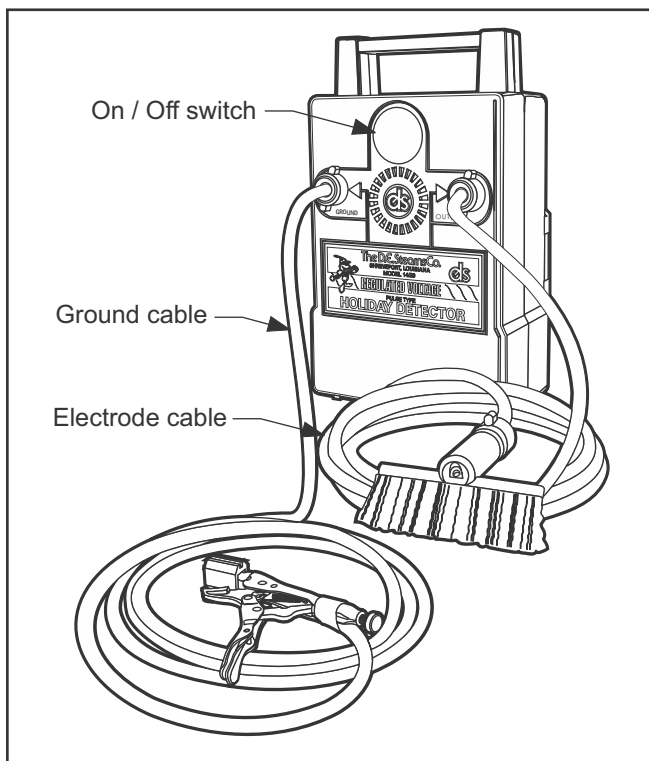

Fig. 55: D.E. Stearns Spark Tester
1. Set the Tester: On the back of the unit are two black, slotted screw caps. (Fig. 55) Remove these caps to expose the adjusting screws underneath. Set the spark tester to achieve 2500 volts. Set the High/Low selector to Low and set the numeric selector to eight. Test the unit by switching it on and grounding the electrode brush against the ground strap. The resulting audible tone should become noticeably louder.